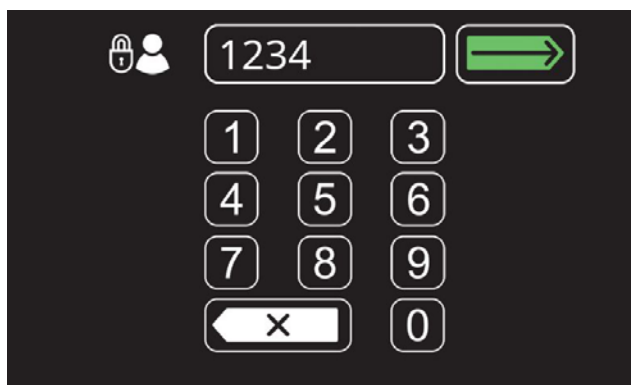

FIG. 158
3. First time use - Enter the factory-assigned supervisor mode login code "1234" then press the green enter button (Figure 158).